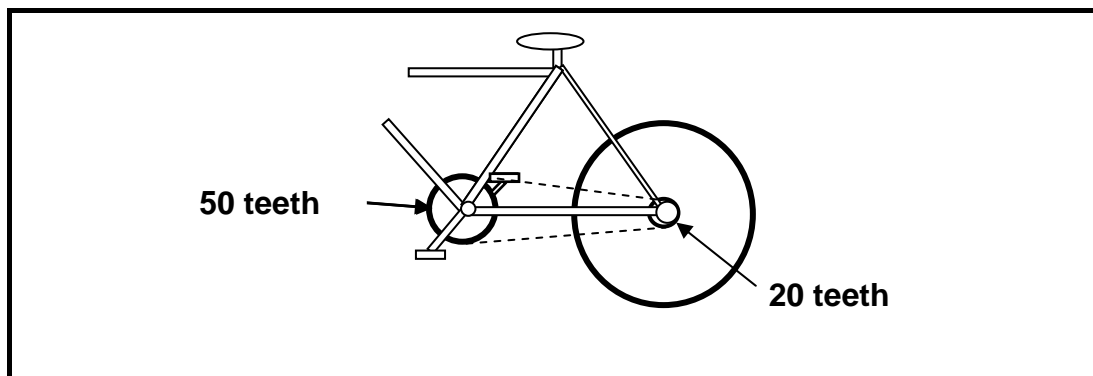

FIGURE 1.8
1.18 Determine the speed ratio of a racing cycle that uses the chain and sprocket system as shown in FIGURE 1.8.